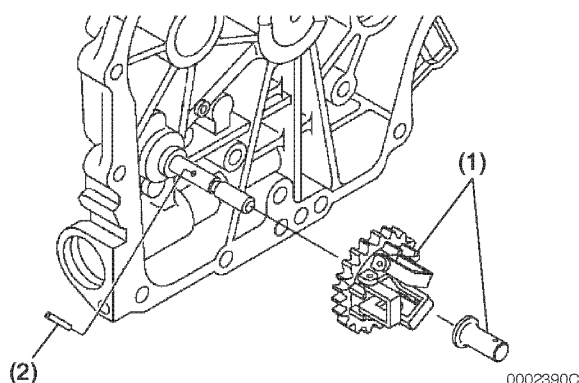

Figure 6-77
3. Install the drive pin (**Figure 6-77, (2)**). The pin must protrude evenly from either side of the shaft.
5. Install the oil pump / governor drive gear and spindle assembly (**Figure 6-77, (1)**) onto the oil pump shaft. Ensure the gear is fully seated and the drive pin engages the drive grooves in the gear.